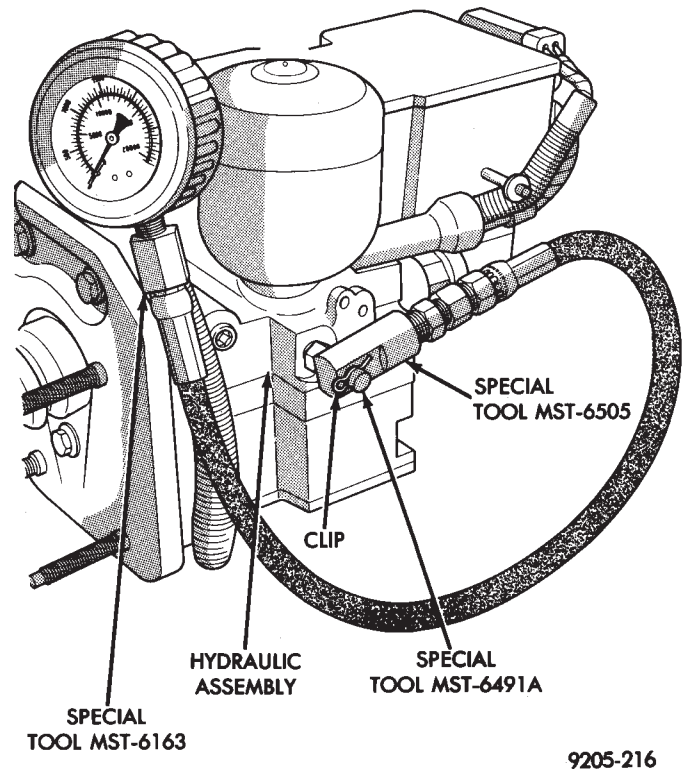

Fig. 2 Pressure Gauge and Adapter Installed on Hydraulic Assembly
(3) Install pressure gauge to hydraulic assembly adaptor (Fig. 2) into accumulator port of hydraulic assembly, and tighten to 10 N•m (7.5 ft. lbs.) torque.
(4) Install adaptor onto the pressure gauge hose (Fig. 2) and tighten the fitting to 15 N•m (11 ft. lbs.) torque.
(5) Install pressure gauge and hose adaptor assembly onto the adaptor installed in the hydraulic assembly accumulator port. Then install the retaining clip into the groove on the accumulator port adaptor (Fig. 2). **MAKE SURE THAT THE RETAINING CLIP IS INSTALLED ON THE ACCUMULATOR PORT ADAPTOR BEFORE RE-PRESSURIZING THE HYDRAULIC SYSTEM.**